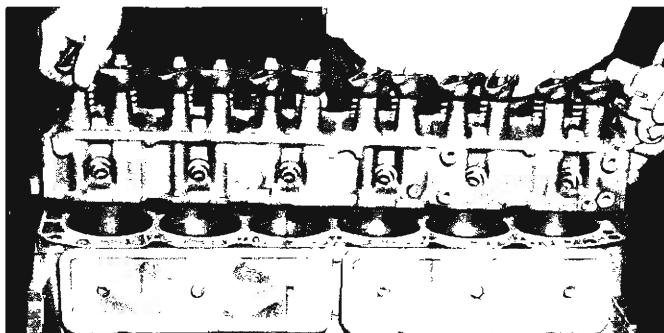

Fig. 5L—Installing Cylinder Head
3. Carefully guide cylinder head into place over dowel pins and gasket (fig. 5L).